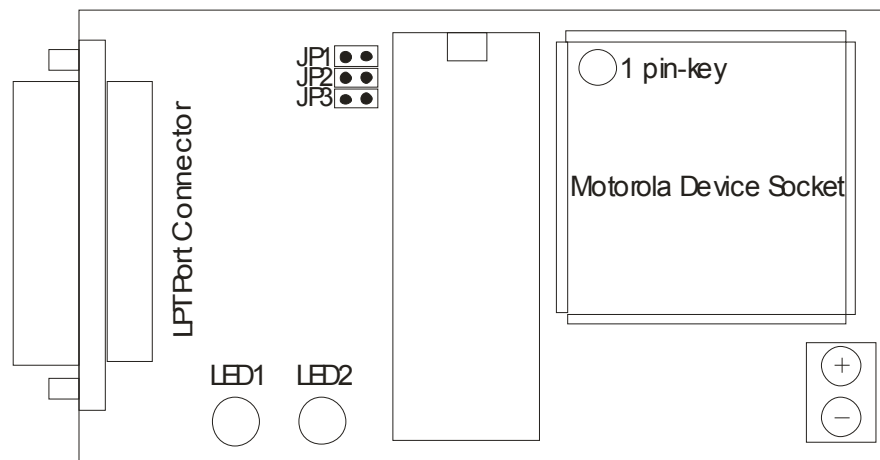

Figure 1. The HC08-Programmer board layout
The HC08-Programmer includes two two-color LED's and two mode jumpers (Figure 1). Color LED's indicates programmer state and external power supply voltage (Table 1, 2).
- Insert jumper JP1 (see Figure 1).
- Insert adaptor to Motorola Device Socket on HC08-Programmer in according to 1 pin-key (see Figure 1).